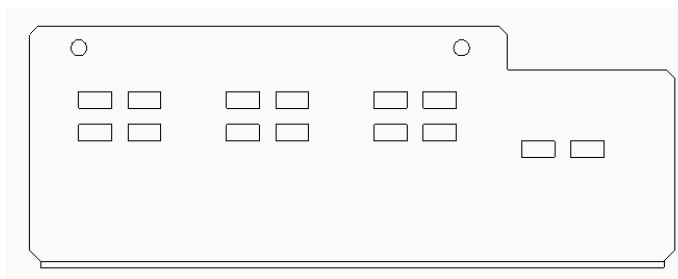

Figure 2-20 Protective cover A of the I/O terminal block
6. Connect the main input live line (phase A, phase B and phase C), N line and PE line respectively to the input live line terminal (U), input live line terminal (V), input live line terminal (W), input neutral line terminal and input ground line terminal of the UPS I/O terminal block. The input live line terminal (U1) is not connected, as shown in Figure 2-20.
7. Connect the output L line, N line and PE line respectively to the output live line terminal, output neutral line terminal and output ground line terminal of the UPS I/O terminal block, as shown in Figure 2-20.